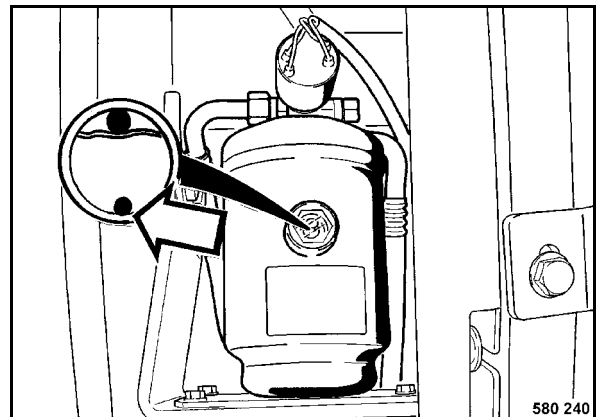

Fig. 120
- Check the moisture indication pearl (Fig. 120) inside the inspection glass of the drier/collector unit.